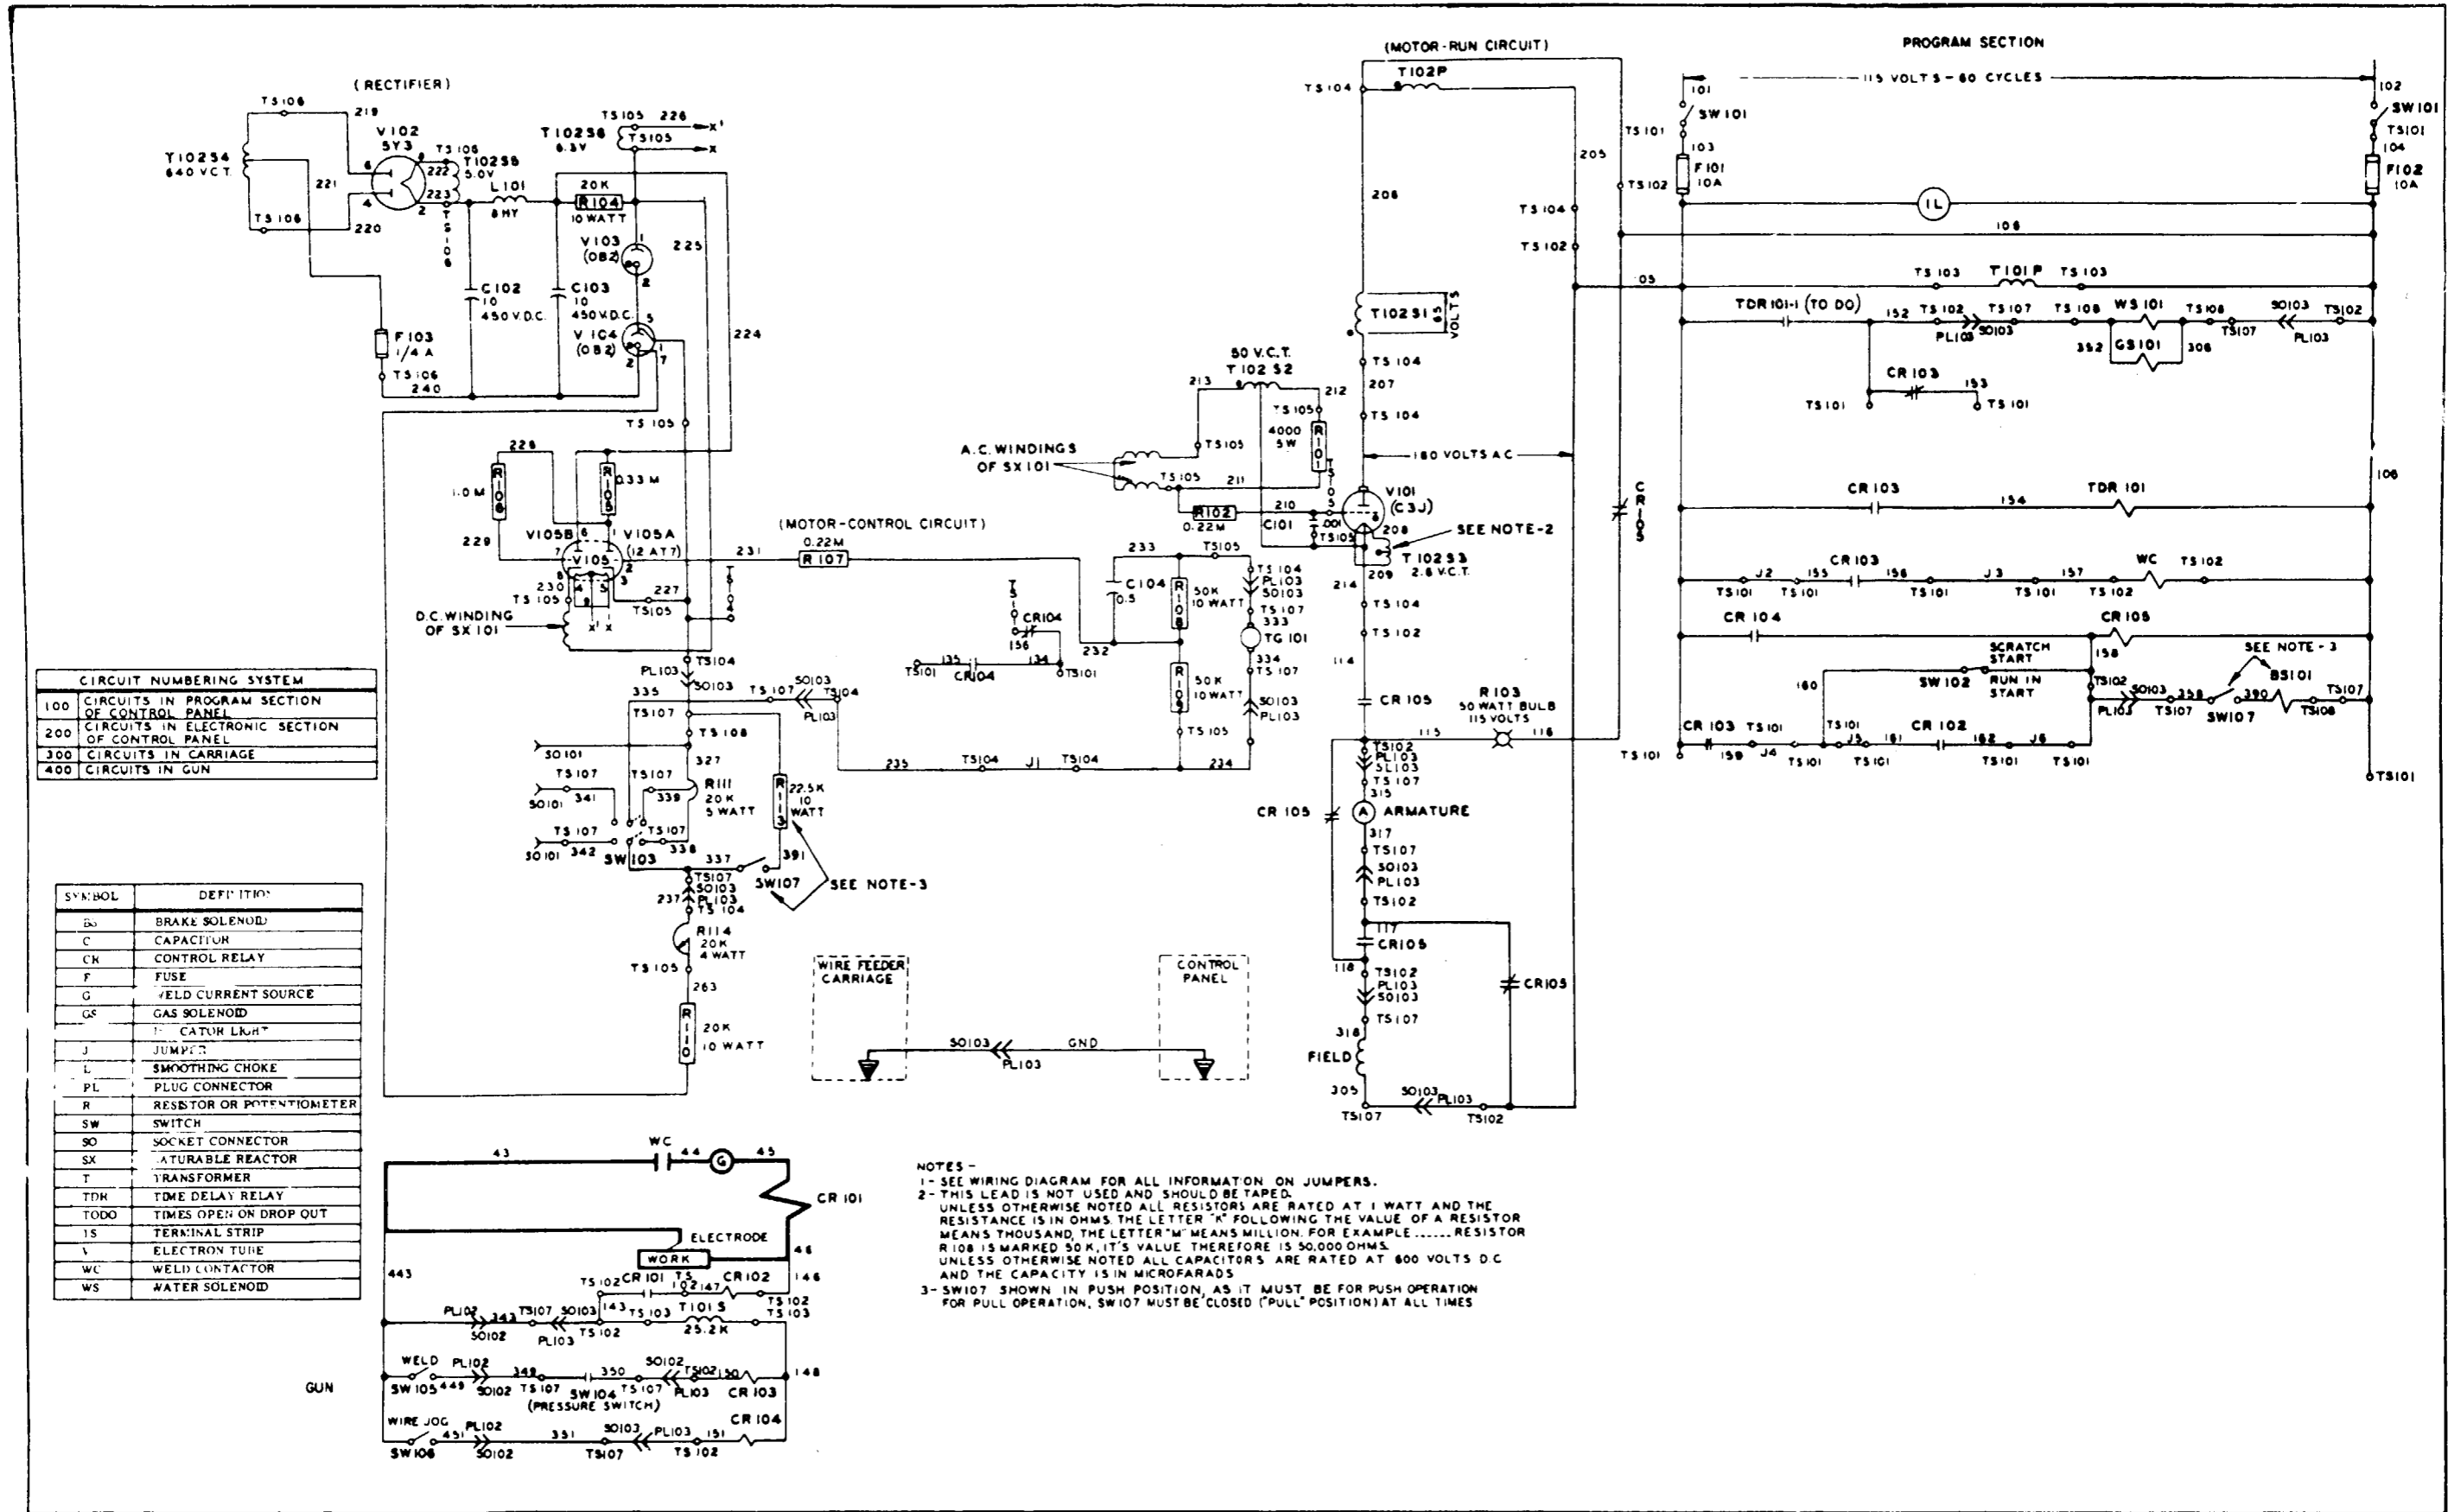

Figure 1. Electrical Schematic Diagram.
- (1) Refer to figure 1 for the electrical schematic diagram.